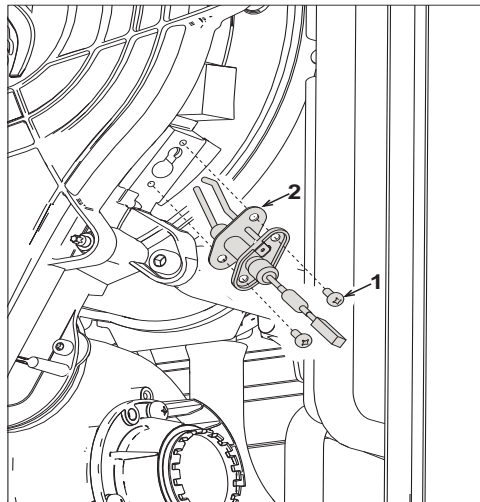

fig. 40
- To clean the exchanger, it is advisable to remove the electrode (see fig. 40).